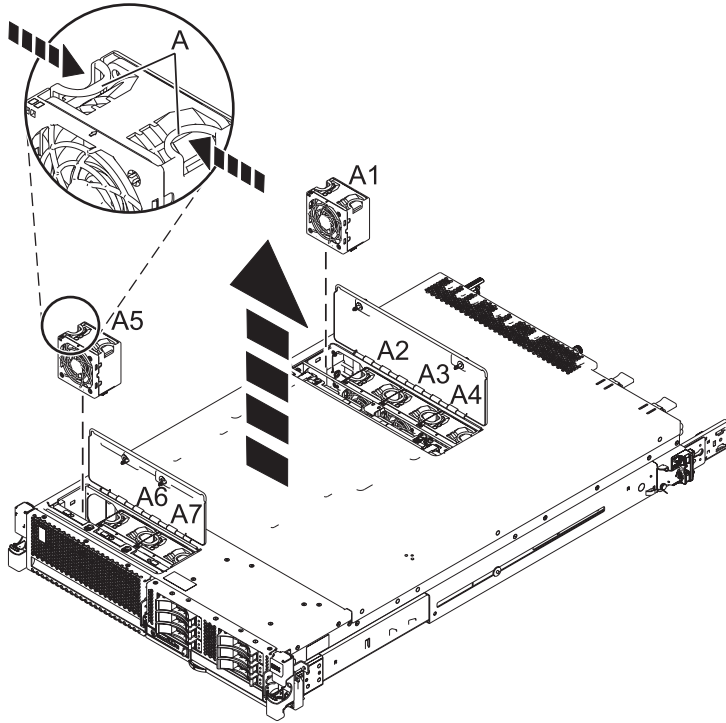

Figure 1. Removing a fan from the 31E/2B, 31E/1C, or 31E/2C
- a. Feed the fan cage cable through the chassis wall opening as shown in Figure 1.